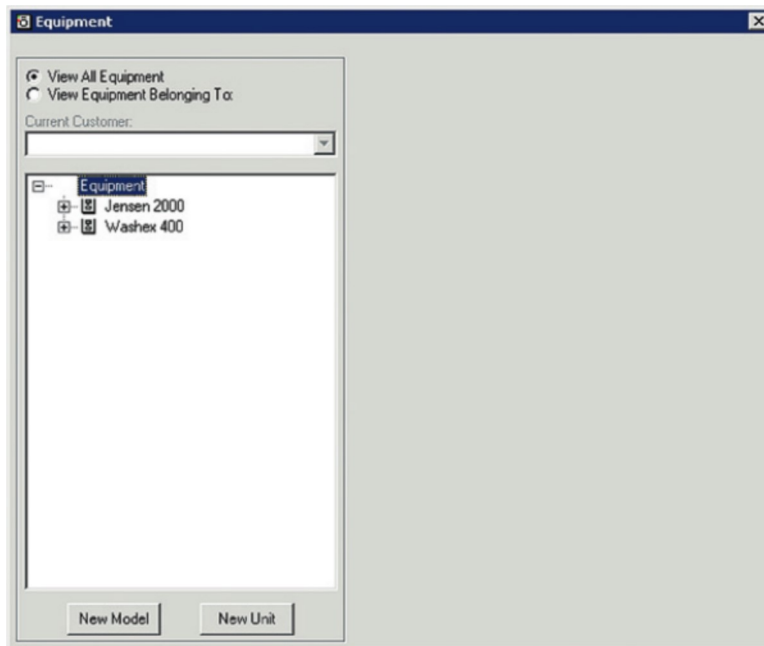

Figure 28. *Equipment* dialog.
The *Equipment* section of PMTracker allows you to maintain the information about each specific piece of equipment. The *Equipment* dialog allows you to add and remove equipment, and manage the equipment's maintenance task, maintenance schedules, and track equipment run times. To access the *Equipment* dialog: Click **Work with Equipment** in PMTracker *EasyPath* to access the *Equipment* dialog (see Figure 28). The list on the left sorts your equipment based on the model. You can also filter the equipment by customer.
1. Click **EasyPath>Work with Equipment** in the *PMTracker* menu to access the *Equipment* dialog (see Figure 28).
2. Click **New Unit** on the *Equipment* dialog (see Figure 28).